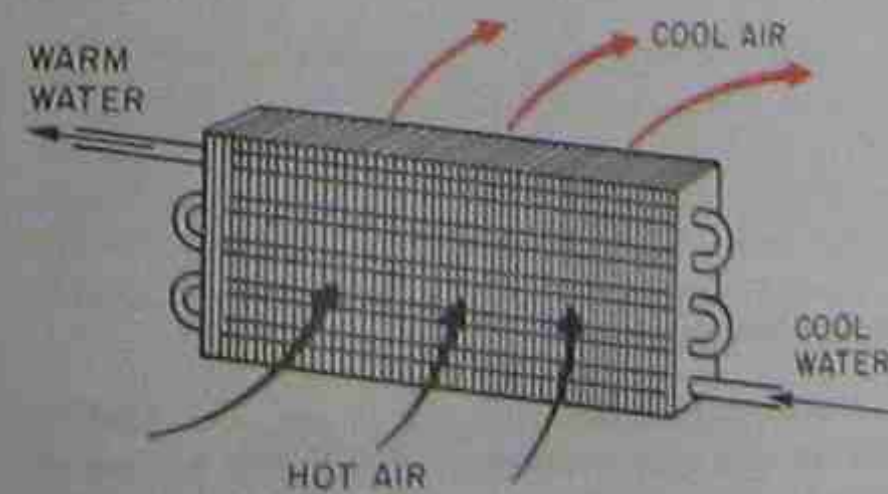

Figure 34-25. An air-to-water heat exchanger.
**Air-to-liquid.** Air-to-liquid heat exchangers are used in domestic hot-water heating. An exchanger, Figure 34-25, is placed in the heated air duct near the domestic hot-water heater. It absorbs heat from the air into the heat exchange fluid, which is pumped to the hot-water tank where it heats the water.